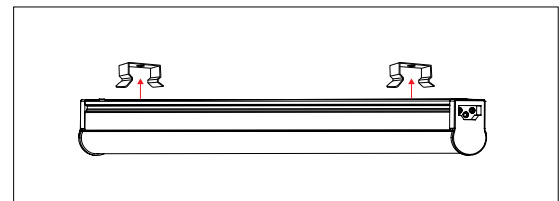

Figure 2
3. Snap luminaire into clips. (Figure 2)